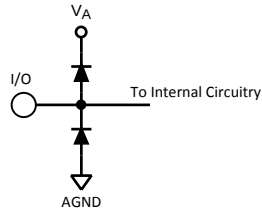

Figure 2.
- (1) The inputs are protected as shown below. Input voltage magnitudes above V_A or below GND will not damage this device, provided current is limited per Note 4 of the Absolute Maximum Ratings Table. However, errors in the A/D conversion can occur if the input goes above V_A or below GND by more than 100 mV. As an example, if V_A is +3.3V, the full-scale input voltage must be $\leq +3.4V$ to ensure accurate conversions. See Figure 2.
- (2) To ensure accuracy, it is required that $|V_A - V_D| \leq 100\text{ mV}$ and separate bypass capacitors are used at each power supply pin.
- (3) With the test condition for $V_{REF} = +1.0V$ (2V_{P-P} differential input), the 12-bit LSB is 488 μV .
- (4) Typical figures are at $T_J = 25^\circ\text{C}$, and represent most likely parametric norms. Test limits are to AOQL (Average Outgoing Quality Level).
- (5) Integral Non Linearity is defined as the deviation of the analog value, expressed in LSBs, from the straight line that passes through positive and negative full-scale.
- (6) Optimum performance will be obtained by keeping the reference input in the 0.8V to 1.2V range. The LM4051CIM3-ADJ (SOT-23 package) is recommended for external reference applications.
- (7) This parameter is specified in units of dBFS - indicating the equivalent value that would be attained with a full-scale input signal
- (1) The inputs are protected as shown below. Input voltage magnitudes above V_A or below GND will not damage this device, provided current is limited per Note 4 of the Absolute Maximum Ratings Table. However, errors in the A/D conversion can occur if the input goes above V_A or below GND by more than 100 mV. As an example, if $V_A = +3.3V$, the full-scale input voltage must be $\leq +3.4V$ to ensure accurate conversions. See Figure 2.
(1) The inputs are protected as shown below. Input voltage magnitudes above V_A or below GND will not damage this device, provided current is limited per Note 4 of the Absolute Maximum Ratings Table. However, errors in the A/D conversion can occur if the input goes above V_A or below GND by more than 100 mV. As an example, if V_A is +3.3V, the full-scale input voltage must be $\leq +3.4V$ to ensure accurate conversions. See Figure 2.
(2) To ensure accuracy, it is required that $|V_A - V_D| \leq 100\text{ mV}$ and separate bypass capacitors are used at each power supply pin.
(3) With the test condition for $V_{REF} = +1.0V$ ($2V_{P-P}$ differential input), the 12-bit LSB is 488 μV .
(4) Timing specifications are tested at TTL logic levels, $V_{IL} = 0.4V$ for a falling edge and $V_{IH} = 2.4V$ for a rising edge.
(5) Typical figures are at $T_J = 25^\circ\text{C}$, and represent most likely parametric norms. Test limits are to AOQL (Average Outgoing Quality Level).
(6) This parameter is ensured by design and/or characterization and is not tested in production.